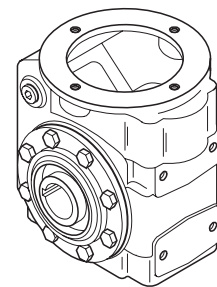

Figure 5
1. Place basic housing on a workbench so that high speed end is facing up as illustrated in Figure 5. If necessary, block housing so that it is stable and level.